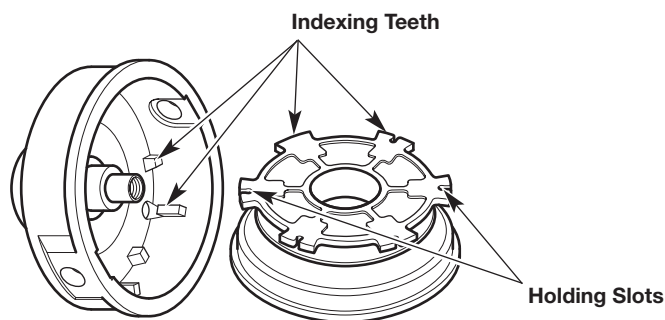

Fig. 16
6. Check the indexing teeth and holding slots for wear (Fig. 16). If necessary, remove burrs or replace the inner reel and outer spool.